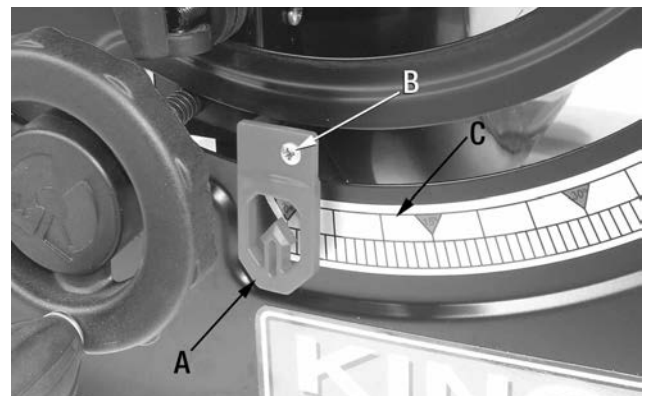

FIGURE 17
If the blade is at a 90° angle and the bevel indicator (A) Fig.17 does not indicate 0° on the scale, an adjustment can be made;
3. Loosen the screw (B) Fig.17 which secures the bevel indicator (A). Readjust the position of the bevel indicator so it aligns with the 0° on the bevel scale (C). Retighten screw.